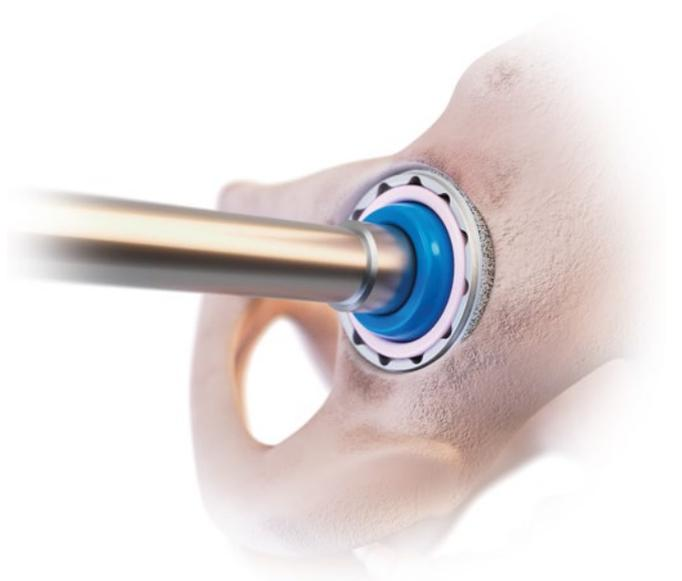

Figure 38.
- If liner seating is acceptable, use an impactor with the appropriate size impactor tip for final seating of the BIOLOX Ceramic Insert (Figure 38). Final seating requires two to four moderate blows. If liner seating is not acceptable remove the liner and repeat liner insertion.